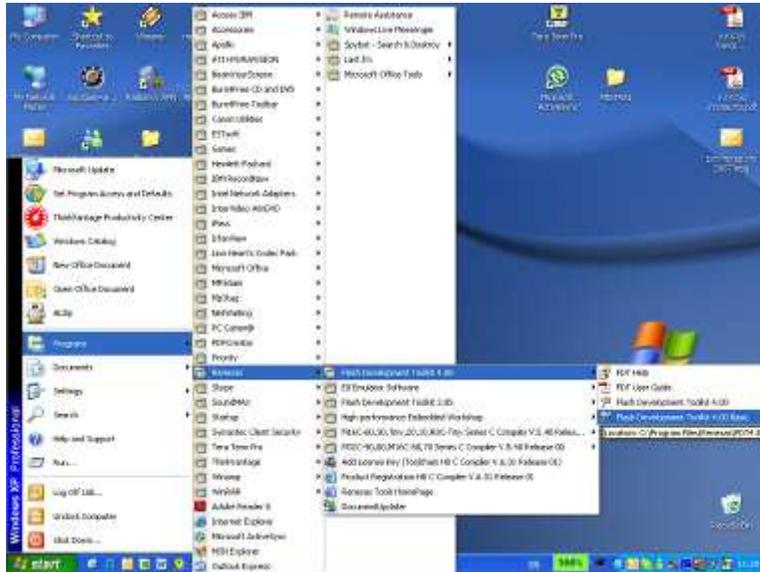

Figure 71:
19. To Run the FDT SW on your computer, go to - :Start > Programs > Renesas > Flash Development Toolkit > Flash Development Toolkit 4.00 Basic (Figure 71).